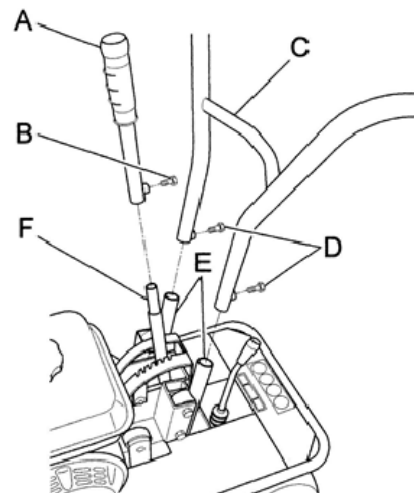

Fig. 3
**WARNING:** During operation the lawn and turf are cut into strips. Should the cutter's wheels skid during use it is advisable to adjust the cutting height using the special lever (Fig. 3, ref.A). If this operation does not prevent this occurrence check the state of the terrain. If it is too dry it should be wetted so that the blade encounters a slight resistance, thus making cutting operations easier.
-Lift the handlebar (Fig. 3 Ref. C) and insert it in the supports shown in Fig. 3 ref. E. Select the required cutting height and secure the setting using the screws provided (Fig. 3 ref. D).
-Fit the end part of the cutting height adjustment lever (Fig. 3 Ref. A) into its relative support (Fig. 3 ref. F) and secure using the screw provided (Fig. 3 Ref.B)